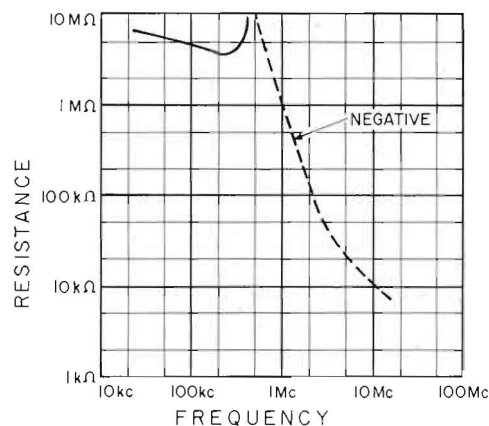

Figure 5. Model 2317A Cathode Follower Probe — Input Resistance vs. Frequency
2.15.4 Input Impedance of the Probe is represented by 10 M Ω paralleled with 7 pF; it does not depend on the voltage range on which the voltmeter is used. The capacitive component of the input stays practically constant over the frequency range, but the resistive component changes as indicated in figure 5.